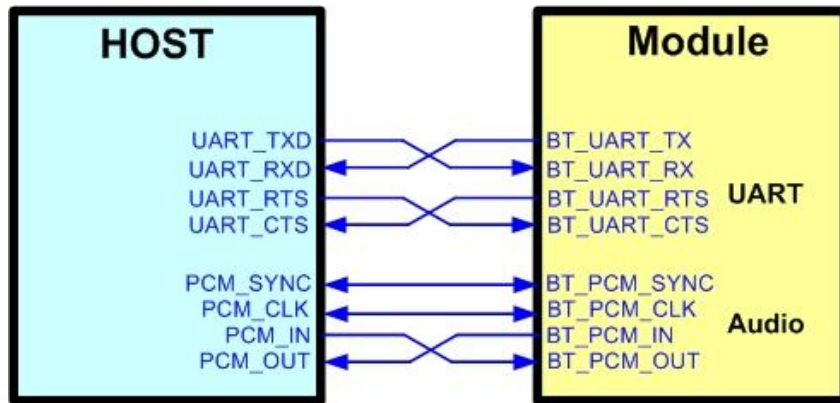

Figure5. Bluetooth verification connection interface to Host UART
- ❖ Refer to Figure5 UART pin definition connects the J16 interface of AP6281 evaluation board to Host UART control interface.